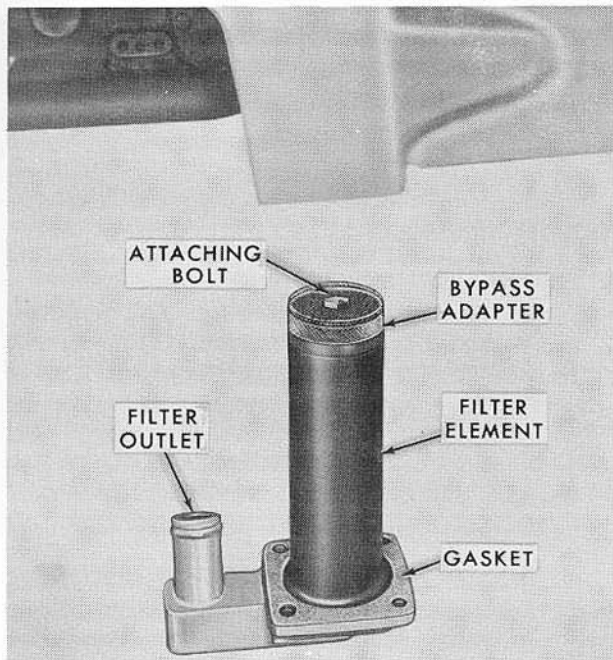

Figure 7
6. Remove the filter attaching bolt and separate the bypass adapter from the oil filter element. Discard the oil filter element and gasket, Figure 7. Fine contaminants imbedded in the filter cannot be washed away and a partially plugged filter will restrict oil flow.